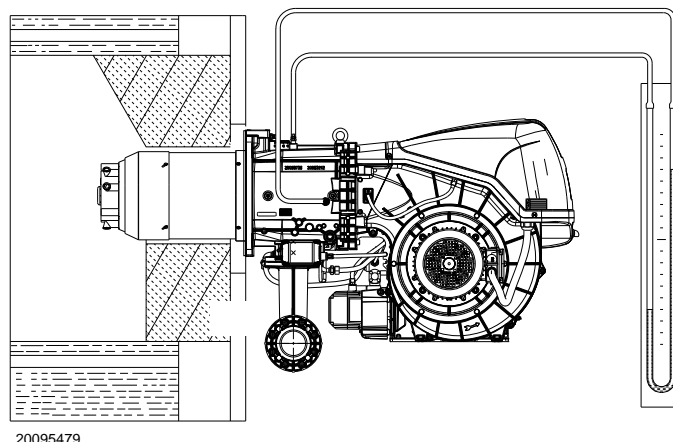

Fig. 35
- Fit a U-type pressure gauge or a differential pressure gauge (Fig. 35 on page 37), with socket (+) on the gas pressure of the pipe coupling and (-) in the combustion chamber.
The arrival of gas at the sleeve is indicated by the U-type manometer (Fig. 35 on page 37).